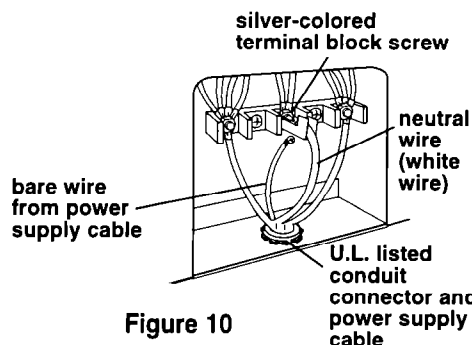

Figure 10
10. Connect the neutral wire (white wire) to the center, silver-colored terminal screw on the terminal block using the brass nuts that are attached to the terminal block cover. See Figure 10.
11. Connect the other two wires to the outer terminals on the terminal block. See Figure 10.